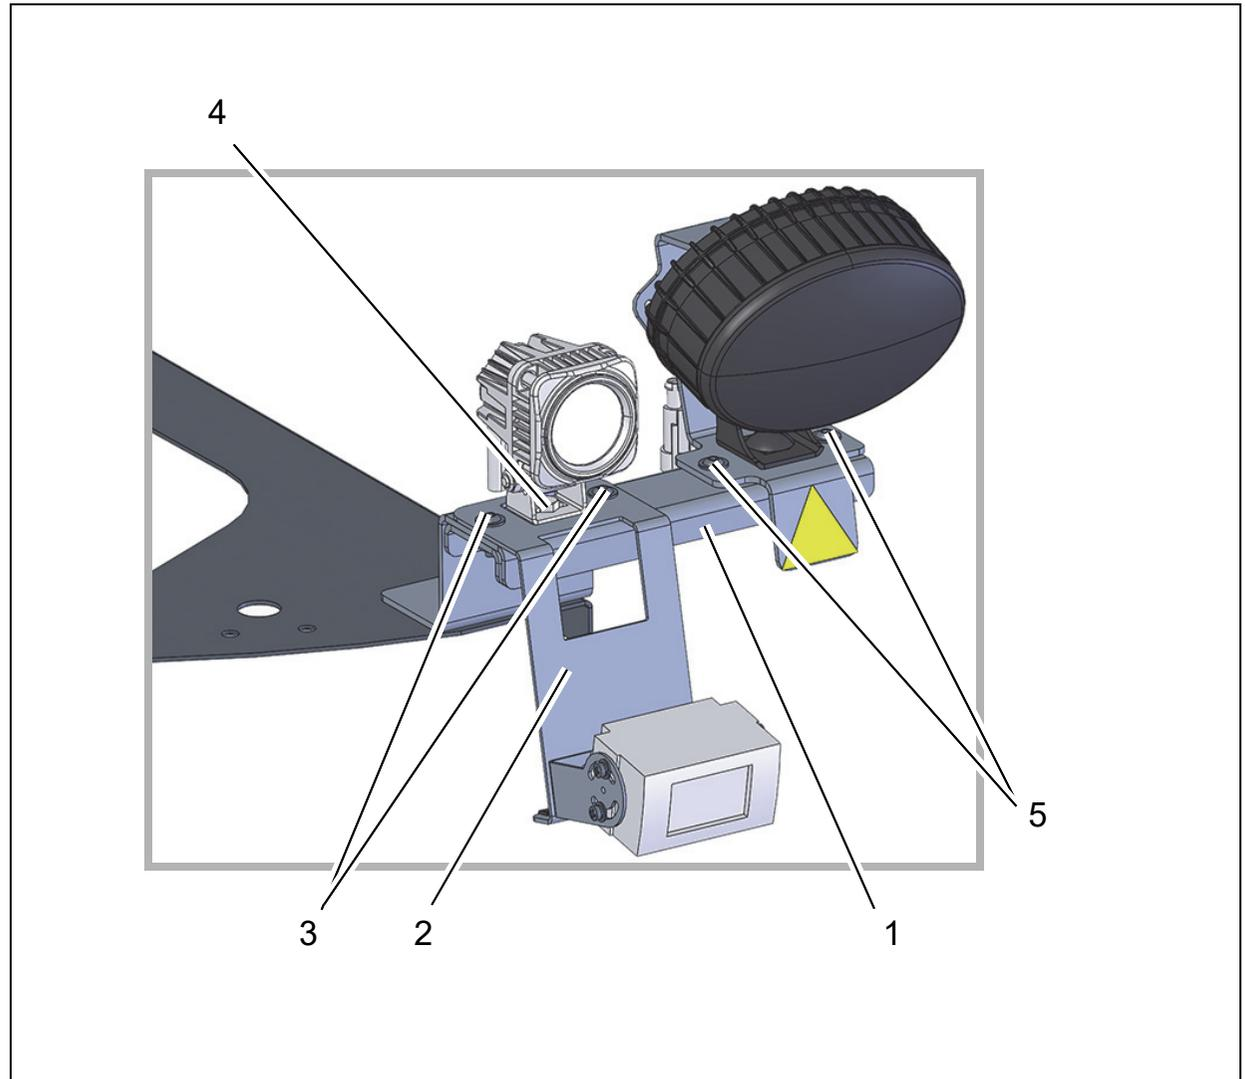

Fig. 6
1. Slide the options bridge (Fig. 6/1) underneath the options holder, position the holder with the reversing camera (Fig. 6/2) on top and attach them together using two M6x16 flanged button head bolts (Fig. 6/3).
2. Attach the working light above the reversing camera using the standard parts (Fig. 6/4).
3. Attach the BlueSpot to the options bridge using two M6x16 flanged button head bolts (Fig. 6/5).